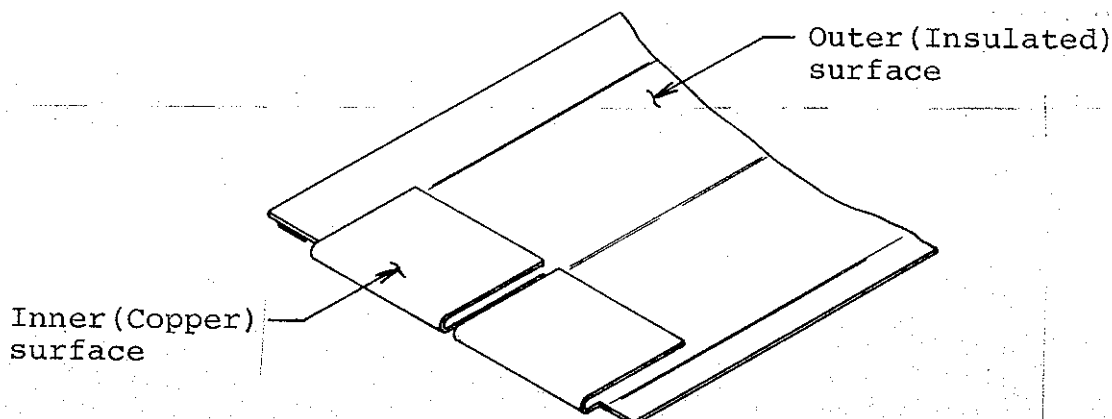

Figure 21. Flaps Folded Back
3. Fold both flaps back over the shield at both ends of the cable assembly (Figure 21).